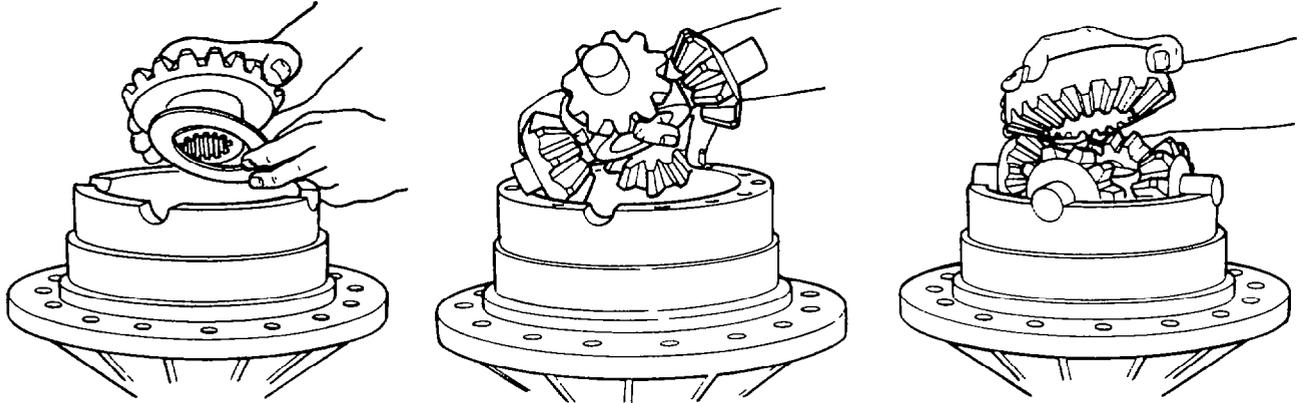

Fig. 358 — Installing Differential Gears
- b. Place the thrust washer (item 13) and side gear (item 14) into the flanged differential case (item 20). Fit the side pinion gears (item 16) and thrust washers (item 15) onto the spider (item 17), then fit the spider unit into the flanged differential case (item 20). Fit the remaining side gear and thrust washer to the spider unit. Refer to fig. 358.